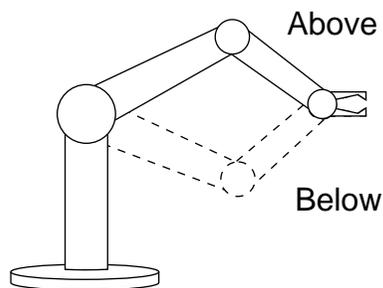

Figure 2-1. ABOVE/BELOW
**Figure 2-1** shows the ABOVE and BELOW configurations.